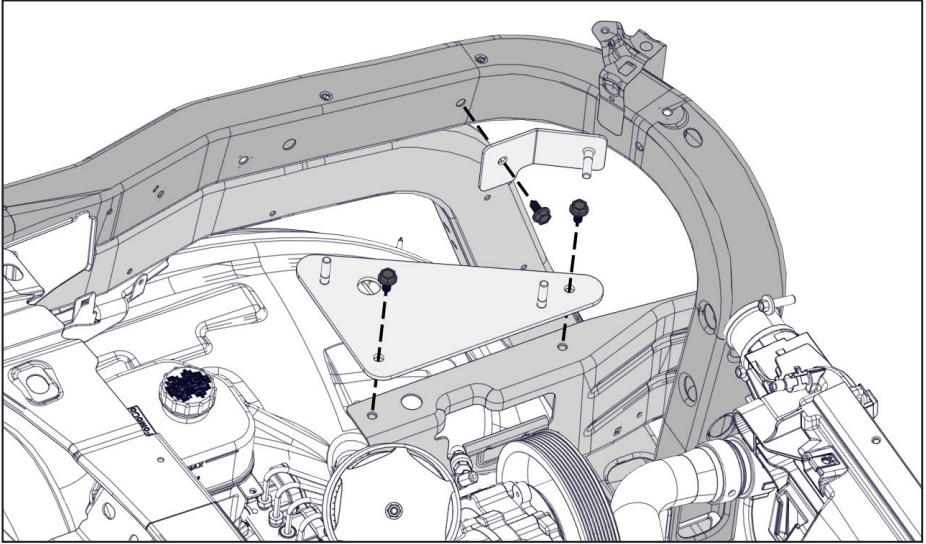

Figure 24 — Install degas bottle brackets
- ☐ Using the supplied M8 fasteners, install the degas bottle brackets in the location shown. Leave the fasteners finger tight (Figure 24).